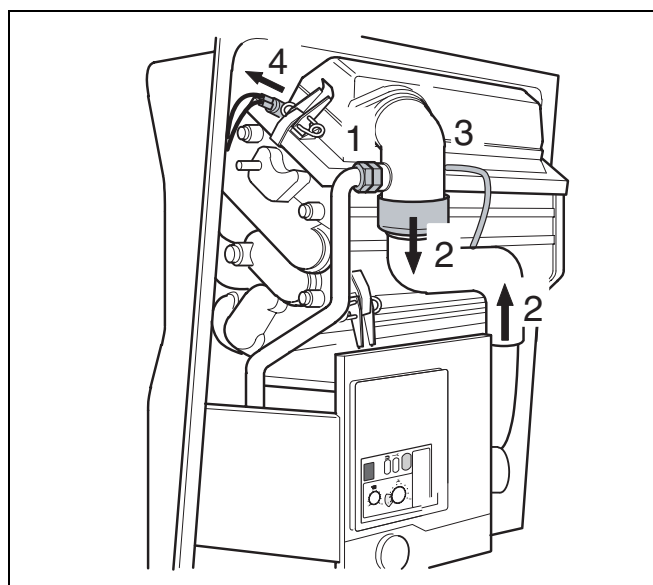

fig. 44 Disconnecting
- Loosen the screw couplings of the gas injector (fig. 44, item 1).
- Pull off the hose leading to the fan (fig. 44, item 2).
- Pull off the hoses at the differential pressure measuring point (fig. 44, item 3).
- Pull off the wiring of the burner thermostat (fig. 44, item 4).